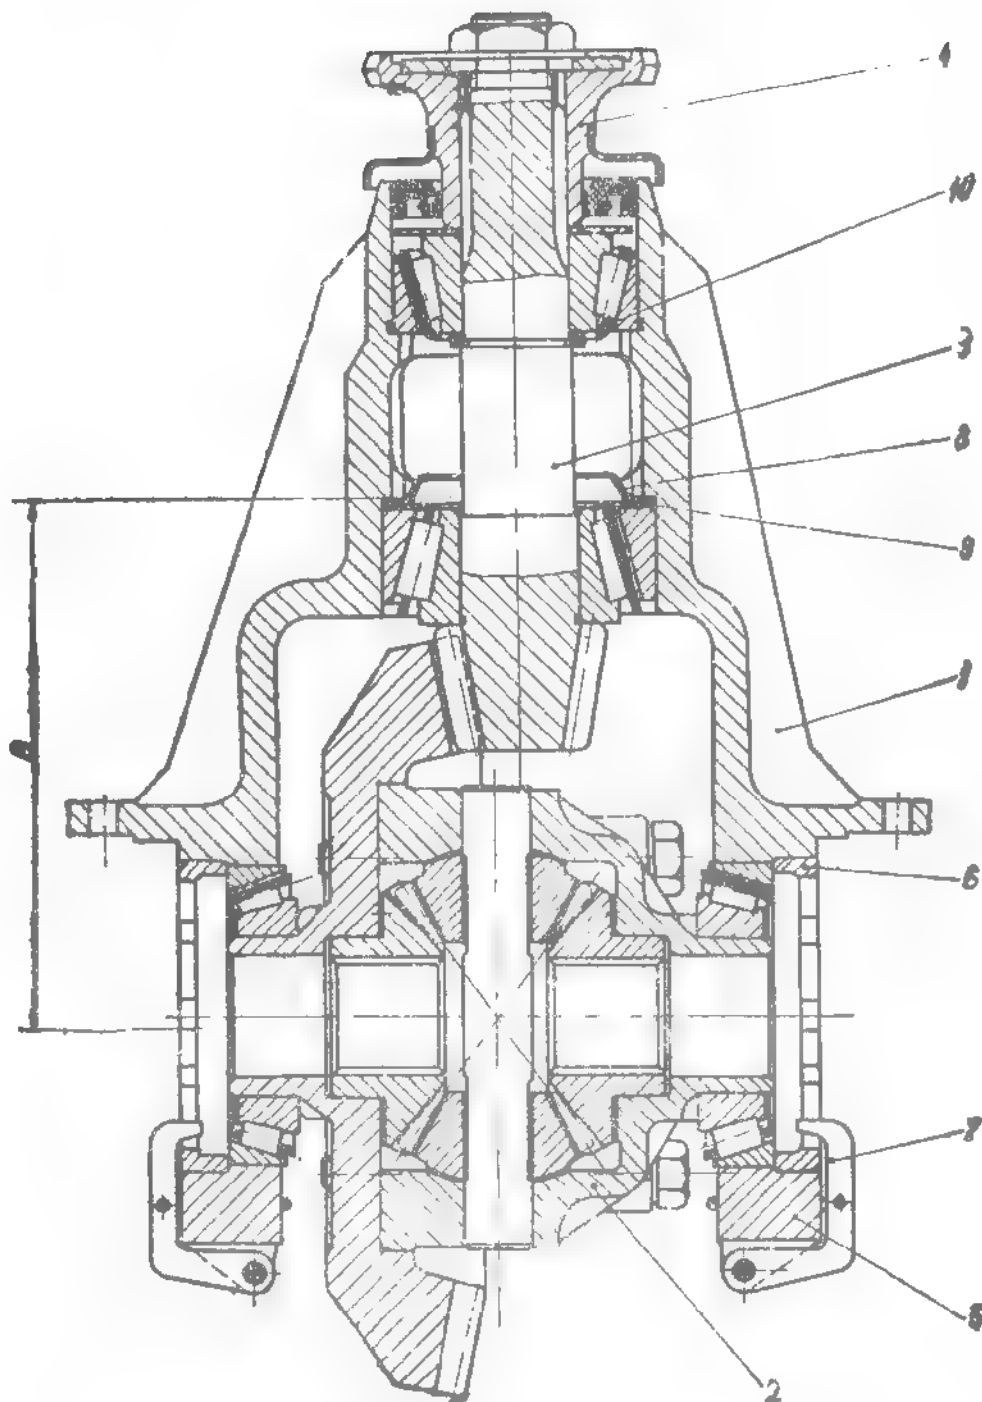
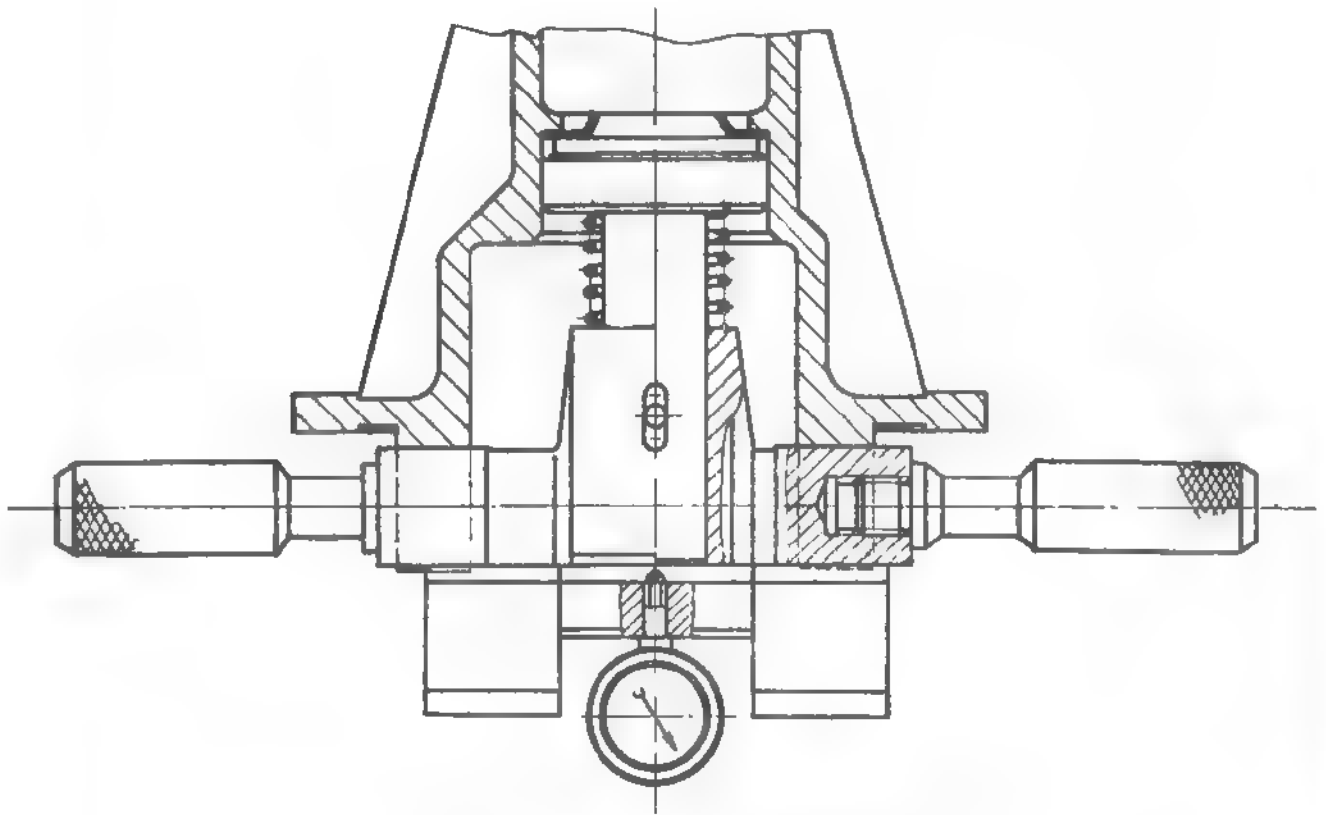

Fig. 4.128 REAR DIFFERENTIAL ASSY
Fig. 4.130. MEASURING DIMENSION "B" BY USING V 111 CHECKER
- Fit differential assy in the D 141 mounting device (see Fig. 4.128).
- Undo lock wires and remove adjusting nut lock finger (7).
- Unscrew bolts fastening half-bearing caps (5)
- Unscrew and remove bearing adjusting nuts (6); remove both bearing outer races and remember mutual position of dismantled components, (in case they should not be replaced by new ones), because their mutual position participate in determining correct gear clearance.
- Remove attentively differential gear case (2), assembled with oil seal (1) and fit it with D 127 locking device.
- If necessary (wear, exccensive bearing play, etc). dismantle also the driving pinion (3). For this:
- Lock driving flange (4) position by means of D 116 locking device.
- Fit into differential housing the oil slinger (8) - see Fig. 4.128. -
- Set in the housing special V 111 measuring instrument and measure the dimension "B" (see Fig. 4.130). Dimension "B" (see Fig. 4.128) will be:
- Introduce differential gear case assy into diff. housing, the two half-bearing caps (5) (see Fig. 4.128) and screw in the two bearing position adjusting nuts (6), respecting initial mutual position of these components.
- Tighten both half-bearing caps (5) on differential housing, but without locking rotation of the two adjusting nuts (6).
- Now, secure both adjusting nuts (6) (see Fig. 4.128) with their lock fingers (7), which are themselves locked in position by means of a wire collar.